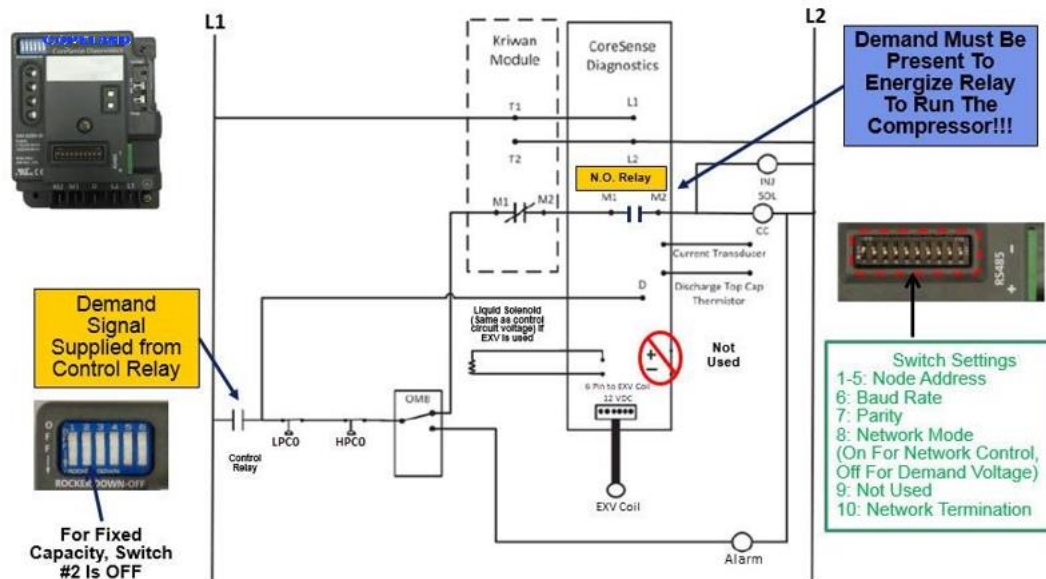

Figure 11 - Fixed Capacity Using Demand Input
1. Fixed Capacity using the Demand Input (Figure 11)
Figure 11 shows the wiring diagram for a fixed capacity compressor using a demand signal. The demand signal must be supplied from a control relay and wired to the "D" terminal of the module. It is preferred the demand wired upstream of any other device in the pilot circuit.
Note: Referring to **Figure 11**, the Blue DIP Switch #2 is "OFF" for fixed capacity.